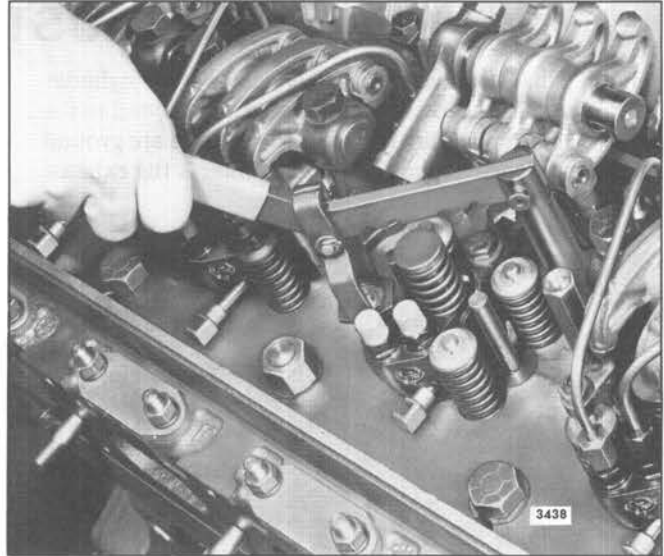

Fig. 3 – Removing Exhaust Valve Spring with Tool J 7455
7. Thread the valve spring compressor adaptor J 7455-7 into the rocker arm bracket bolt hole in the cylinder head (Fig. 3). Then, compress the valve spring and remove the two-piece tapered valve lock.